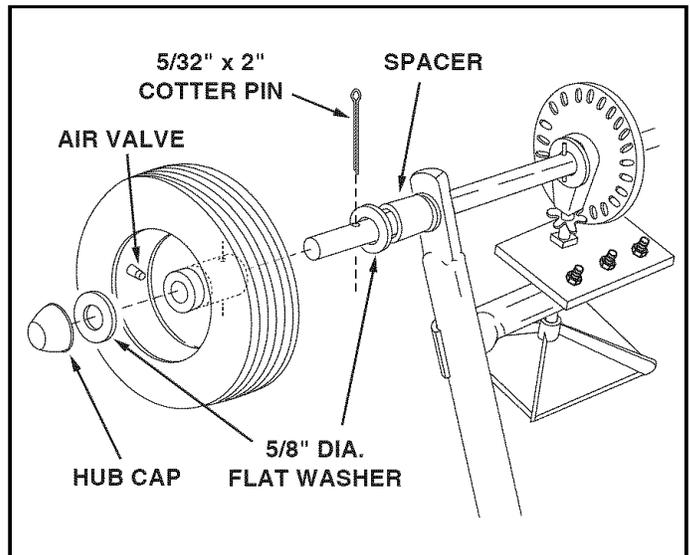

FIGURE 4
- Select the end of the axle containing the cross hole. Assemble a spacer, a 5/8" flat washer, a wheel (air valve facing out) and then another 5/8" flat washer onto the axle. Insert the 5/32" x 2" cotter pin through the wheel hub and the axle and then spread the ends of the pin. See figure 4.
- Install a hub cap by tapping it carefully onto the axle with a hammer. See figure 4.